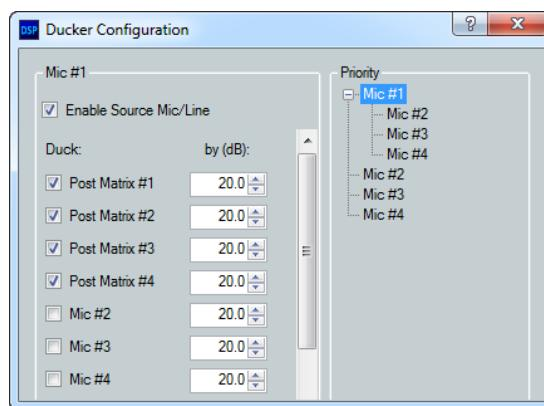

Figure 72. Set a Ducking Source
2. Open the ducker configuration box and select the desired duck targets (see figure 72). In this example post-matrix 1 through 4 are the ducking targets.
As was shown in figure 72, mic 1 is the first source. Since it was selected as a ducking target, mic 1 is not available as a target of mic 2.